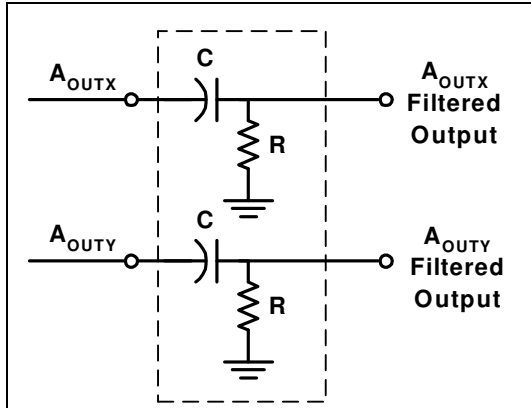

Figure 3: High Pass Filter
**AC Coupling:** For applications where only dynamic accelerations (vibration) are to be measured, it is recommended to ac couple the accelerometer output as shown in Figure 3. The advantage of ac coupling is that zero g offset variations from part to part and zero g offset change over temperature can be eliminated. Figure 3 is a HFP (high pass filter) with a -3dB breakpoint given by the equation:  $f = \frac{1}{2\pi RC}$ . In many applications it may be